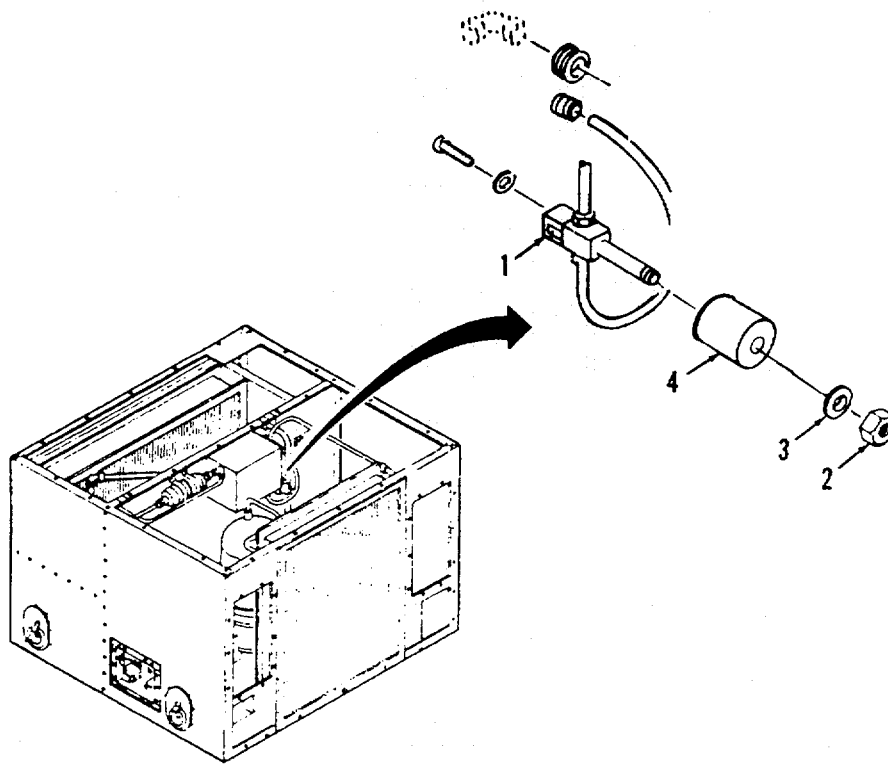

Figure 3-35. Coil (Solenoid Valve).
(1) Using multimeter set on lowest OHMS scale, check for continuity between leads of coil. If continuity is not found, coil is open and must be replaced.
(2) Using multimeter set on lowest OHMS scale, check for continuity between each lead and coil casing. If continuity is found between either lead and the casing, the coil is grounded and must be replaced.
**b. Removal.** (Refer to Figure 3-35).
(1) Tag and disconnect wires connected to solenoid valve (1).
(2) Remove nut (2), washer (3), and coil (4).